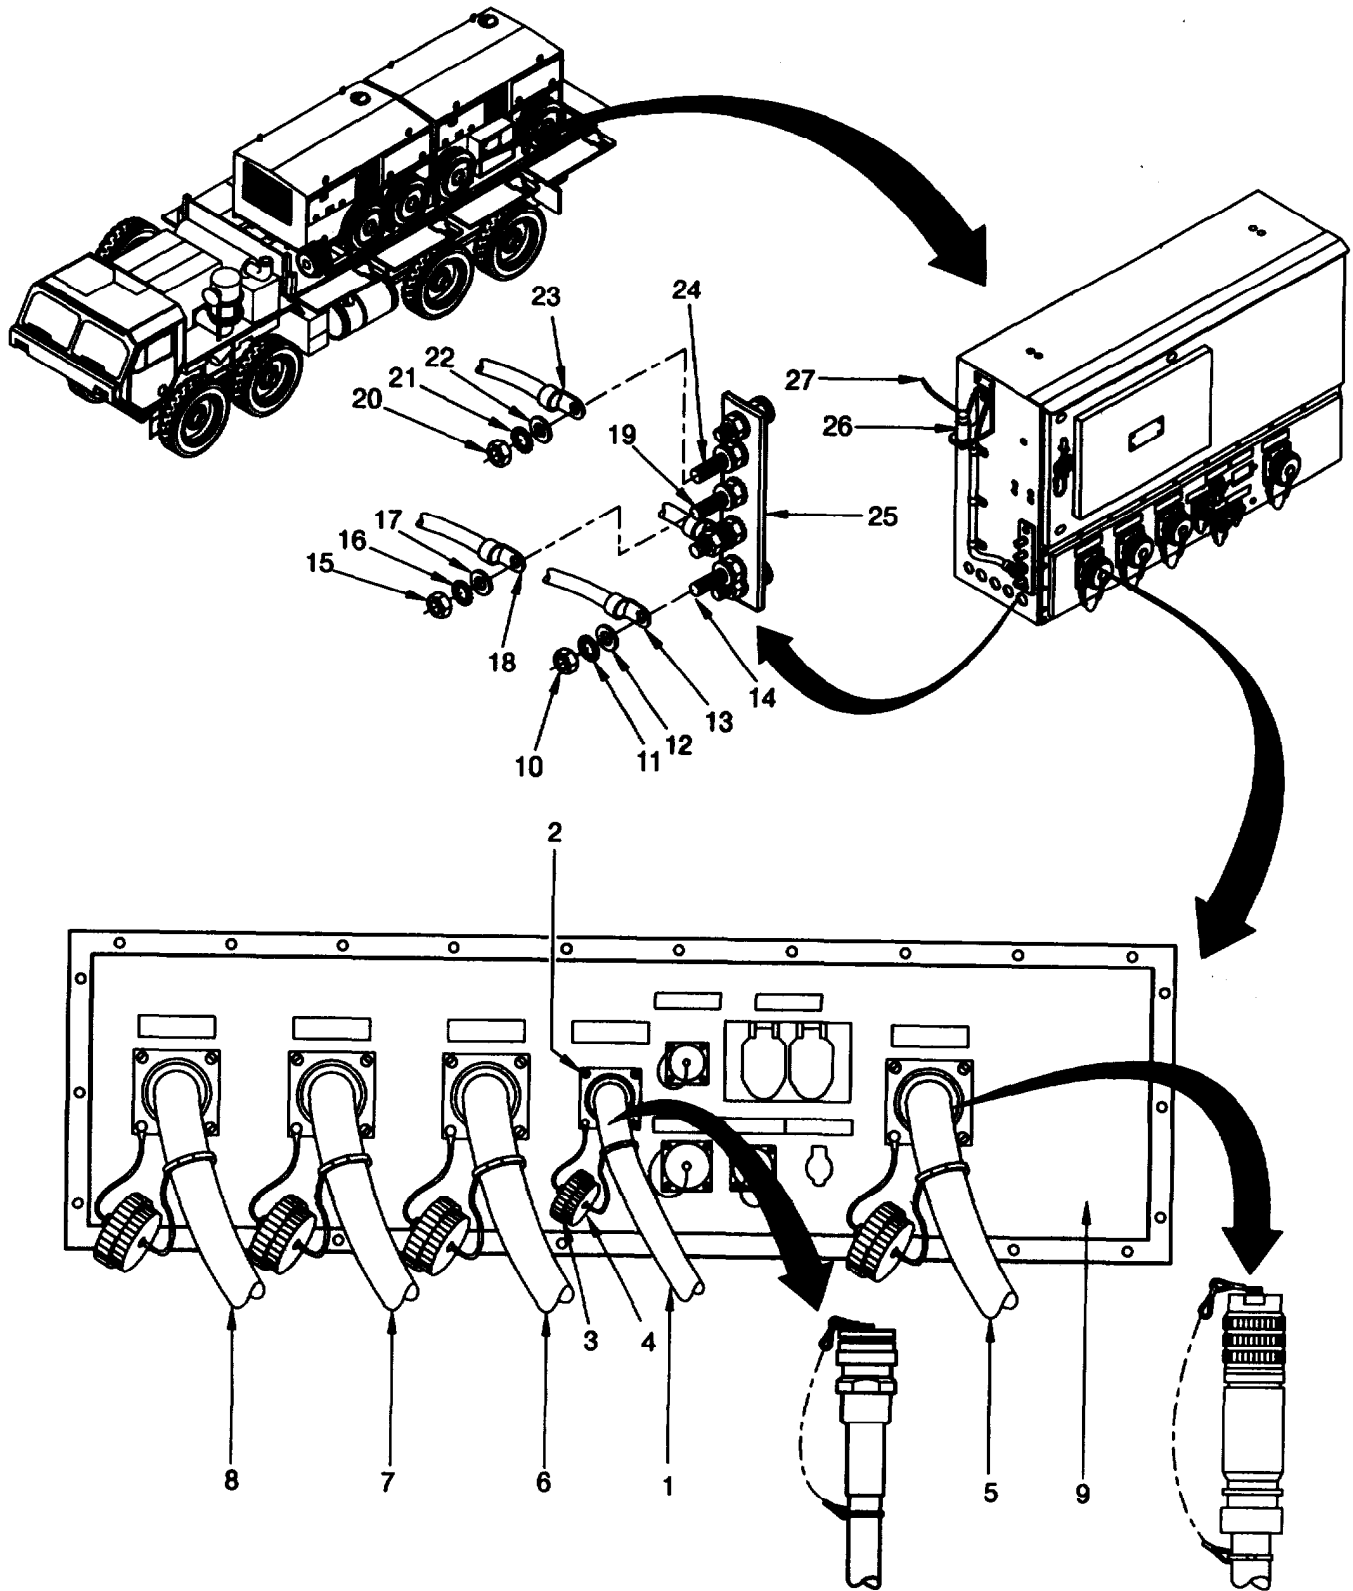

Figure 4-19 Power Distribution Unit Connection Panel and Ground Cable Connections.
- (1) Unscrew protective cap (4, Figure 4-19) for plug and protective cap (3) for socket from each other.
- (2) Pull plug of control cable (1) out of socket (2).
- (3) Screw protective cap (4) onto plug of control cable (1).
- (4) Screw protective cap (3) onto socket (2).